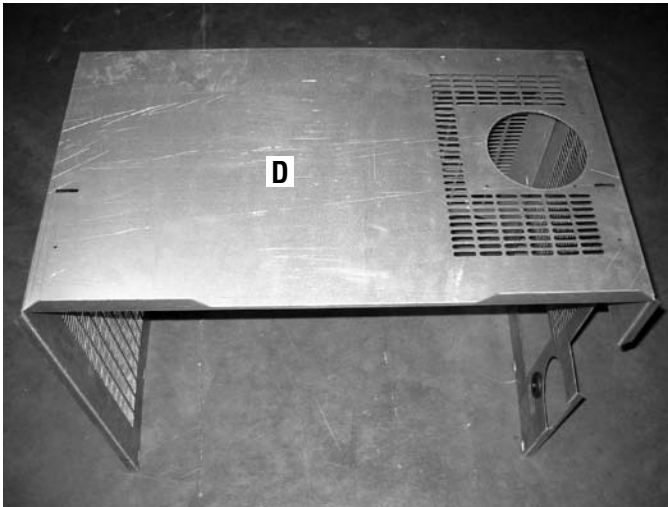

Figure 56
3. Install the top panel D. Place panel D on top of panels A, B, and C as shown in **Figure 56**. There are 3 holes across the top of the panel on each side. Insert the screws only on the right and left side. The 3 remaining holes in panel D will be used in step five.